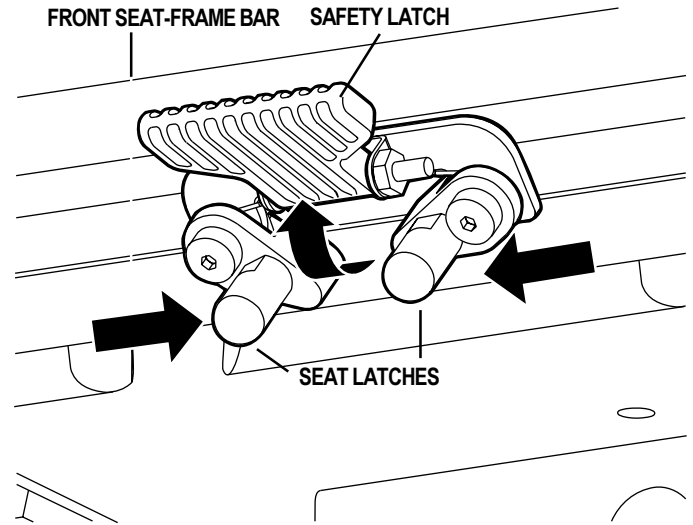

Figure 9. Seat Latches
5. Squeeze together the two seat latches and lift the seat up enough to release it from the front seat bar. See figure 9.